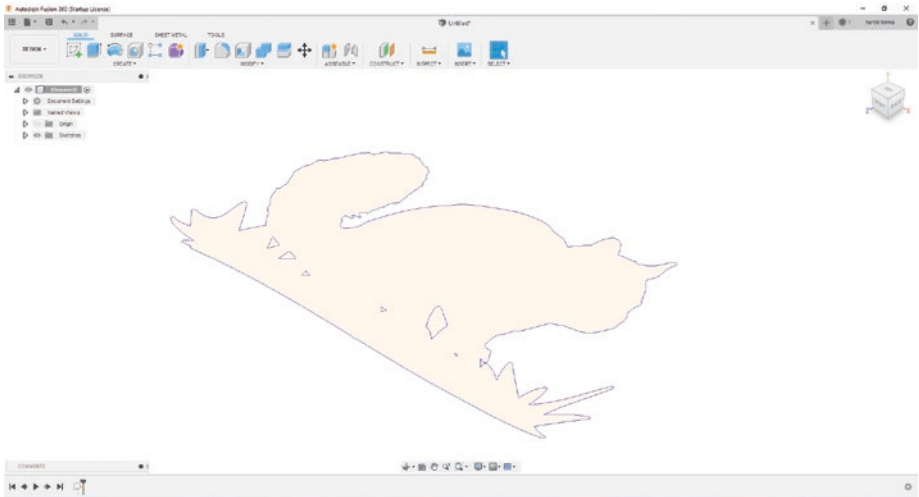

Figure 3-31. DXF is loaded into Fusion 360
7. You should now see your DXF file on the plane you chose earlier. See Figure 3-31.